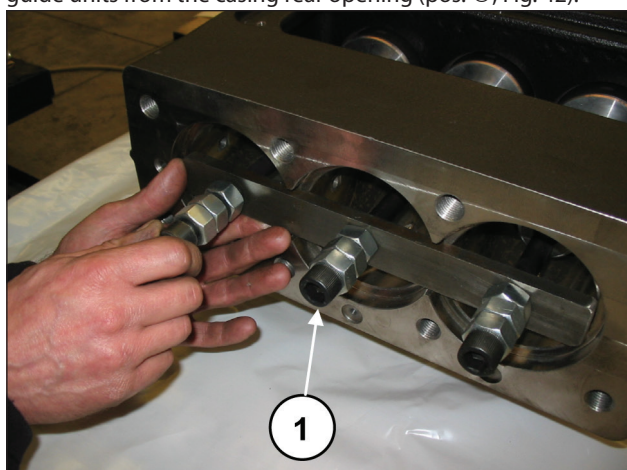
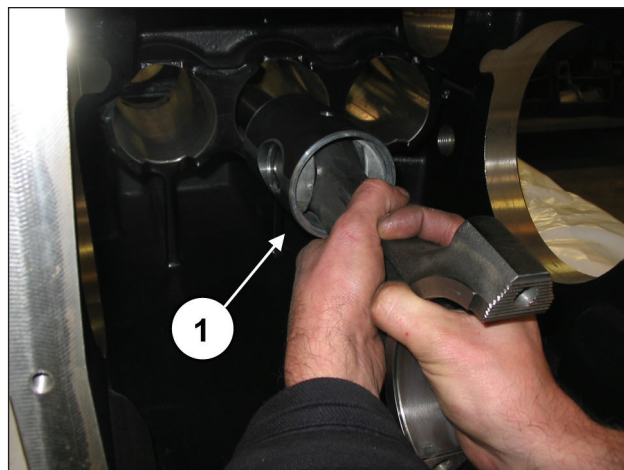

Fig. 41
Fig. 42
Unscrew the screws with tool code 27566200 to unlock the conrods (pos. ①, Fig. 41) and then extract the conrod-piston guide units from the casing rear opening (pos. ①, Fig. 42).
Separate the caps from the conrods. Proper coupling can be verified by the numbering on the side (pos. ①, Fig. 43). After having checked casing cleaning, proceed with assembly of half support-piston guide unit inside casing rods (pos. ①, Fig. 42).
Block the three units with the use of special tool code 27566200 (pos. ①, Fig. 41).
Remove the tool for blocking the conrods code 27566200 (pos. ①, Fig. 41) and roll back the connecting rods until they touch the bend shaft.